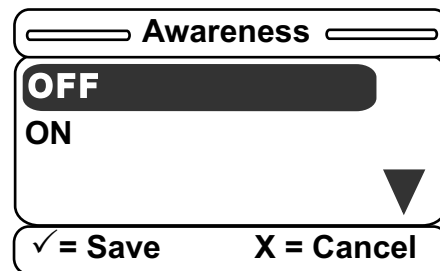

Figure 39 – Awareness menu
15. After you select the Awareness item, the Awareness menu displays (Figure 39). You can set the Awareness option to OFF or ON. Press **Enter** on the footboard panel to make your selection or **Exit** to cancel the operation.